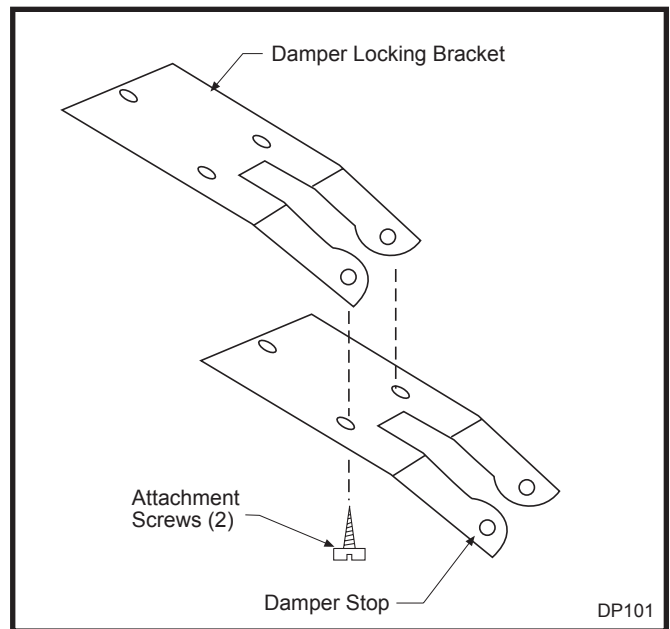

Fig. 5 Attach damper stop.
3. Align the two slots on either side of the cutout on the damper stop with the two small holes on the angled portion of the damper locking bracket. Attach the damper stop with the screws provided. (Fig. 5)